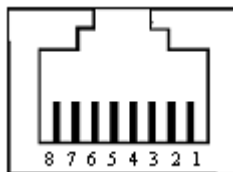

Figure 12 RJ45 Port
- Pin definition of 10/100Base-T(X) RJ45 port
Pin number of 10/100Base-T(X) RJ45 port is shown in Figure 12